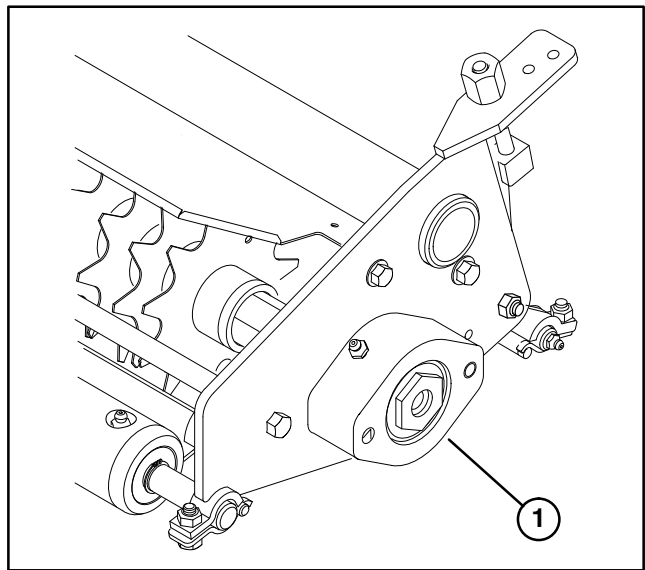

Figure 11
## REMOVING REEL (Fig. 11–12)
1. Remove (2) capscrews and washers securing counterweight to end of dethatcher unit. Remove counterweight.
2. Remove (2) capscrews and washers securing reel motor to other end of dethatcher unit. Remove reel motor.
3. Remove (2) capscrews and lockwashers securing the reel bearing housings to each end of dethatcher unit (Fig. 11).